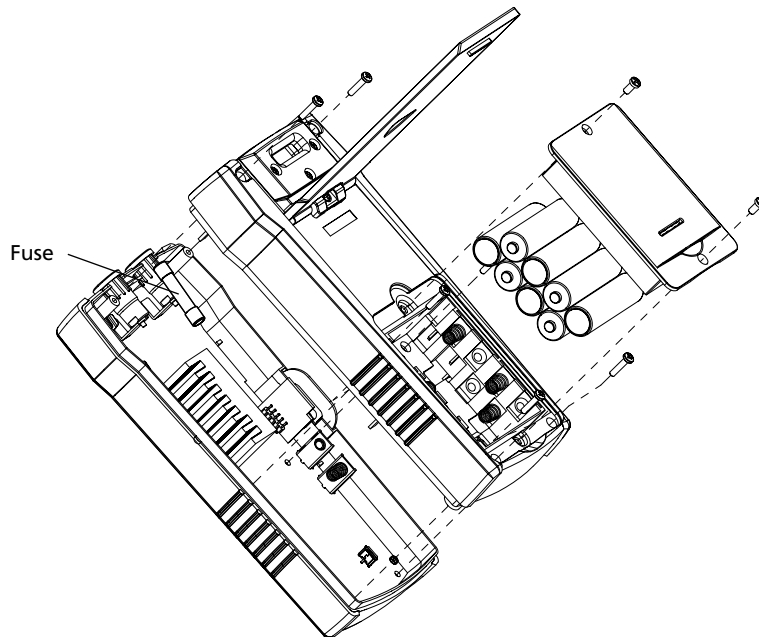

Figure 5.2: Transmitter fuse replacement
6. Remove the back cover by pulling it upwards (Figure 5.2).